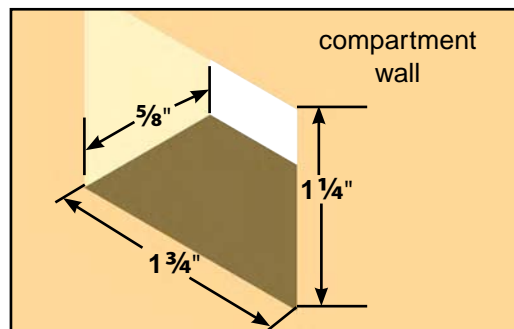

Fig.24
2. Cut a hole in the desired location 1 3/4" wide by 1 1/4" high and have a depth of 5/8" (Fig.24) so the top and bottom horizontal cuts are parallel to floor of the compartment or floor of the unit.